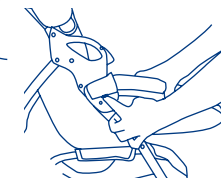

Fig. 11b
**To remove the front child tray:** depress the button on the underside of the male fitting and pull the tray outward to remove. (Fig. 11b)